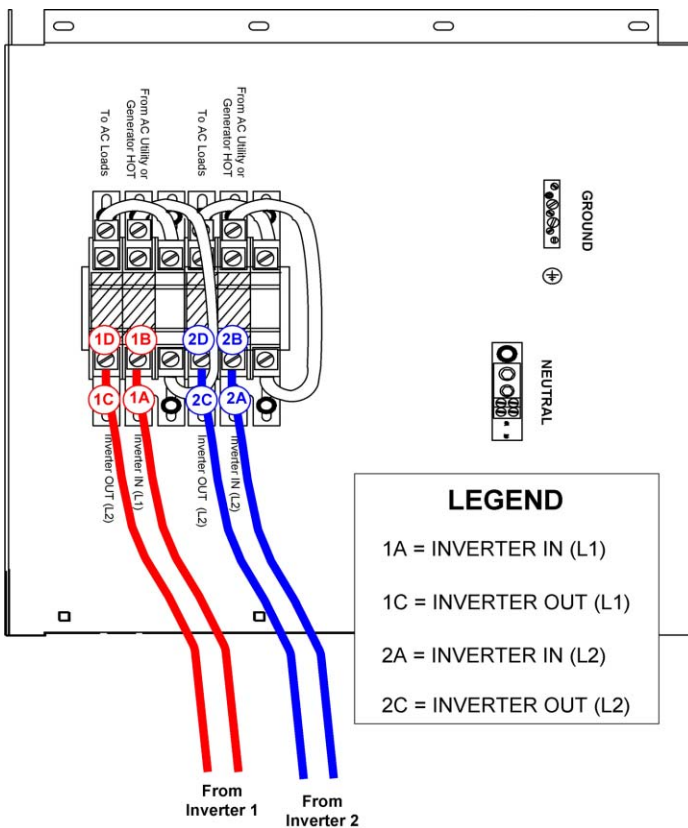

Figure 2-10
See Figure 2-10 for an illustration of the original power module wiring.
1. Inside the power module, locate and label wires 1A and 1C from inverter-1 and wires 2A and 2C from inverter 2 as labeled in Figure 2-10.
2. Inside the power module, locate and label terminals 1B, 1D, 2B and 2D as labeled in Figure 2-10.